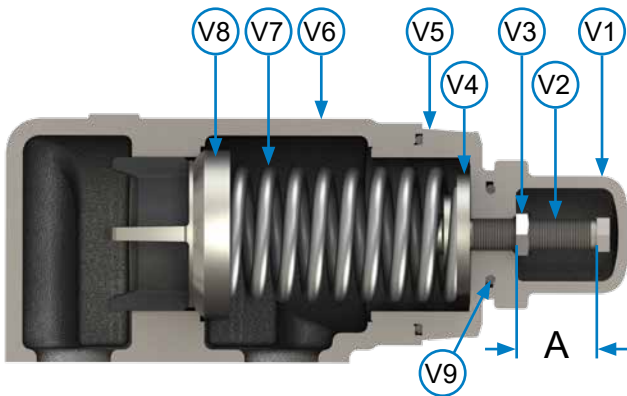
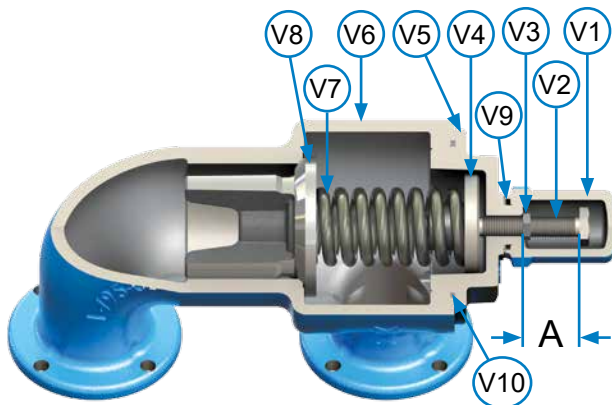

FIGURE 7 - SIZES H AND HL
FIGURE 8 - SIZES K, KK, L, LQ, LL, Q, QS, N & R
2. Measure and record length of extension of adjusting screw. Refer to "A" dimension on Figure 7 & Figure 8.